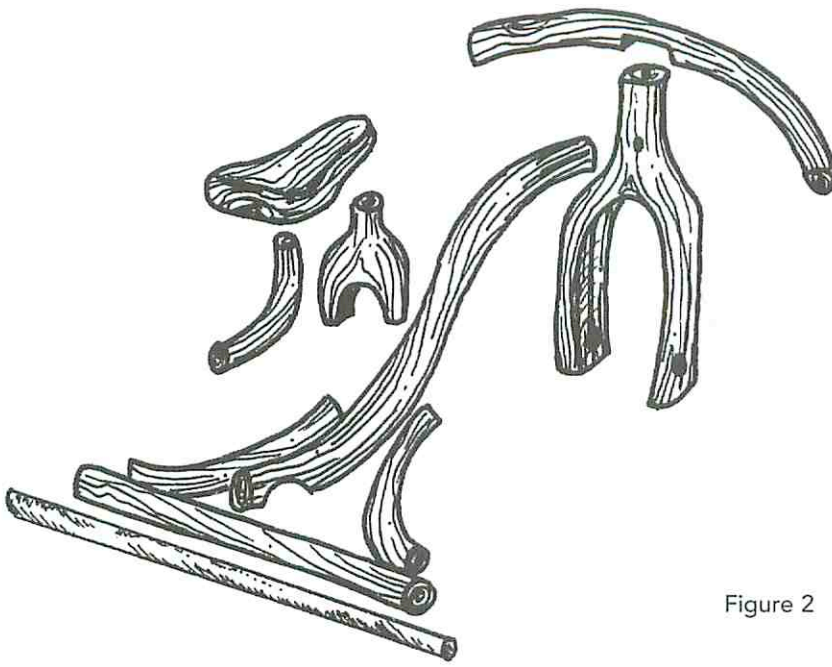

Figure 2
Working down the length of the tricycle (see Fig. 2), the next step is to bolt the main frame (C) and the fork together. There is going to be considerable stress where these pieces join, so you'll want to make the fit as snug as you possibly can and use as long a lag bolt as is possible. Predrill holes in the two pieces and connect with the lag bolt.